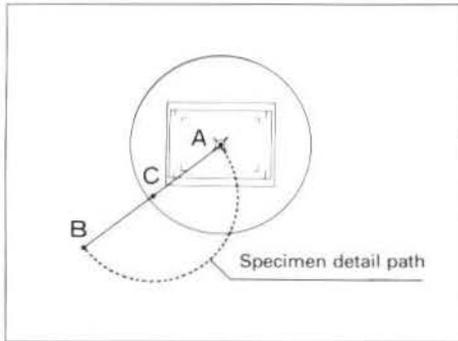

Fig. 35
1. Looking through the eyepieces, find an easily distinguishable specimen detail and bring it to the center of the reticle. (Fig. 35)
4. Move the specimen detail from "C" to "A" using the stage X-Y traverse knobs. (Fig. 35)